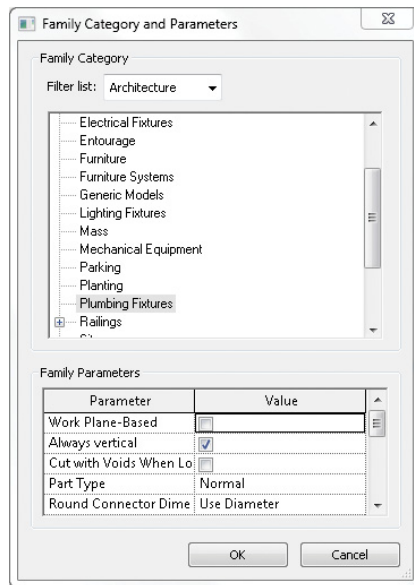

FIGURE 5.3 Editing the family category and parameters
3. Go to the **Create** tab's **Properties** panel, and click the **Family Category And Parameters** button. The **Family Category And Parameters** dialog box opens (Figure 5.3); it shows the category to which the family is assigned (Plumbing Fixtures).